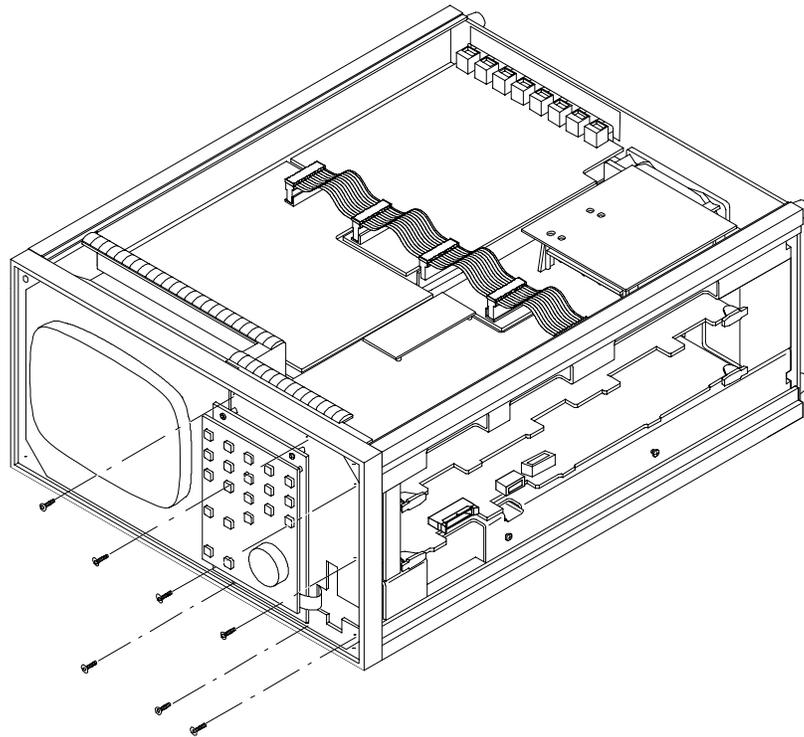

Figure 5: Removing the retaining screws from the Keypad board
8. Remove the screws attaching the Key board bracket to the cabinet frame. See Figure 5.
- d. Install and tighten the flat-head screws that hold the Keypad board assembly bracket to the instrument front frame. See Figure 5 on page 10.